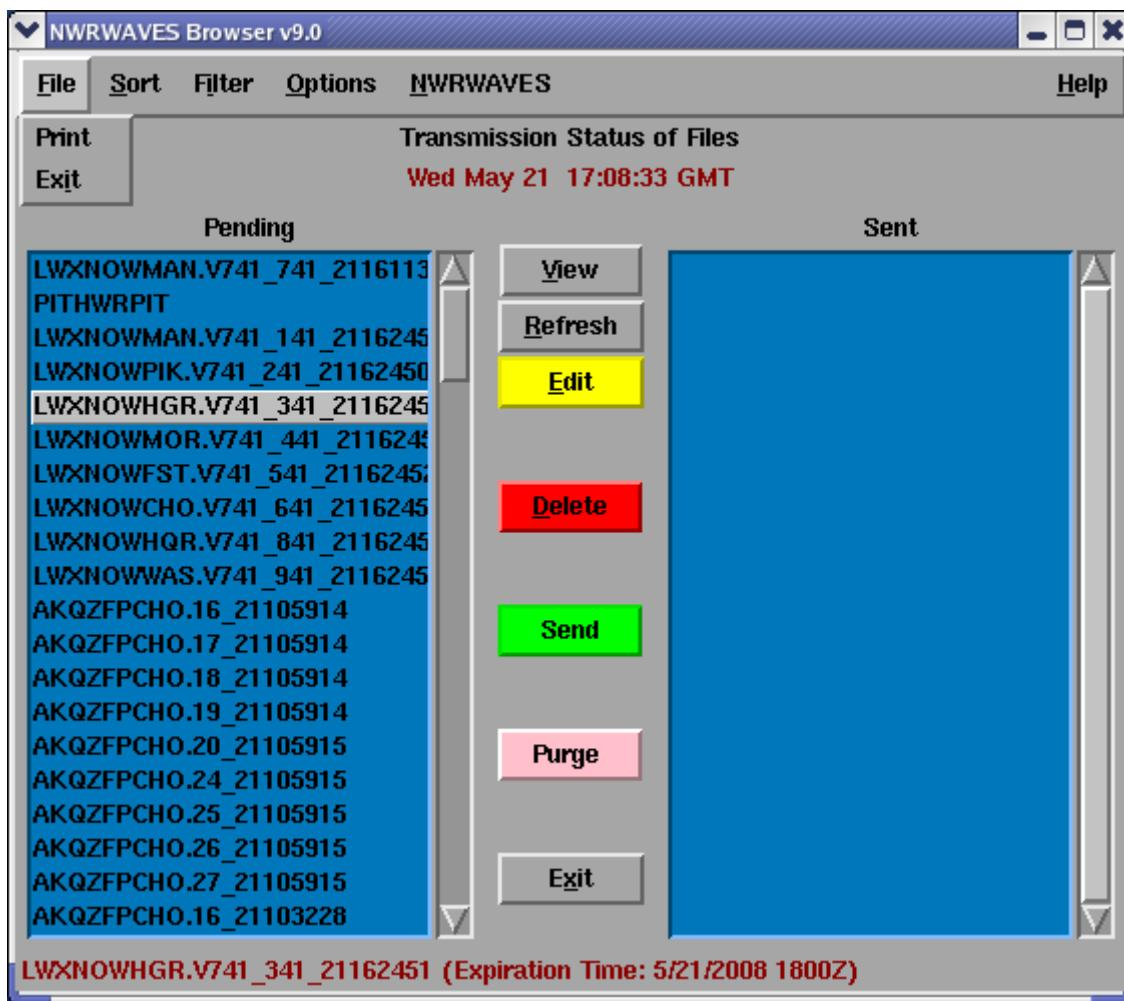

Figure 9 – NWRWAVES Browser (front-end application to NWRWAVES)
- a. Print – Print highlighted items from Pending/Sent lists (see Figure 9)